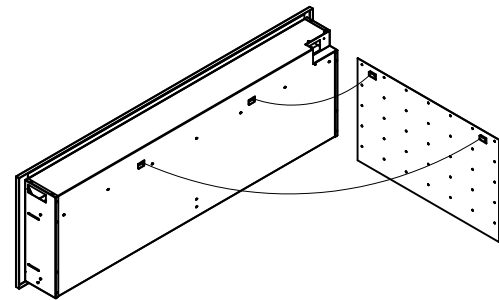

Fig. 2
4. Remove the hanger from the fireplace by removing the screws. See to Figure 2.